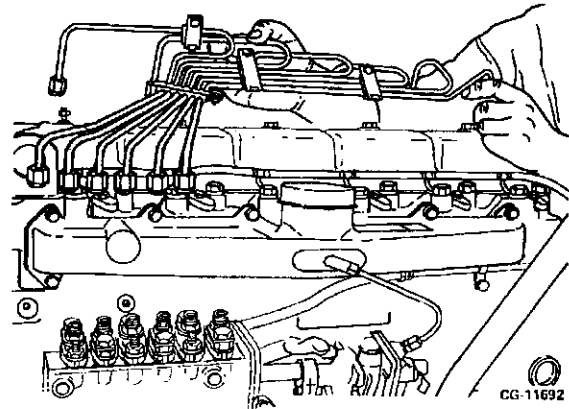

Figure 11.55. Remove Fuel Injection Lines as an Assembly
3. Remove the fuel injection lines as an assembly. Refer to Figure 11.55.